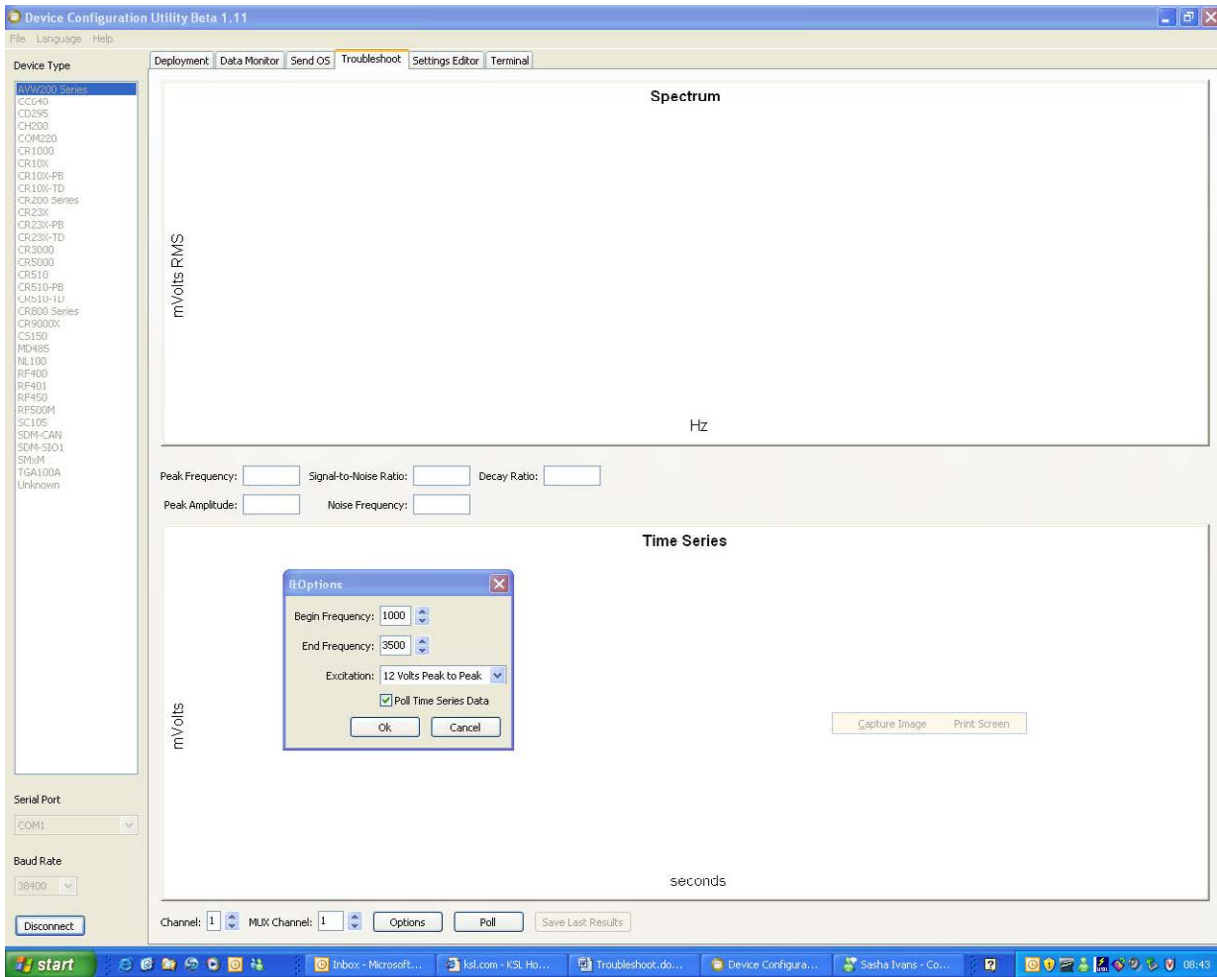

FIGURE 5-8. Options Tab of the Troubleshoot Tool
3. Click the Options tab at the bottom of the Troubleshoot screen to set the begin and end frequencies and the excitation voltage you wish to test for a given sensor (FIGURE 5-8). You may also choose to poll (default) or not to poll the time series data from this Options window by checking or unchecking the poll time series box.